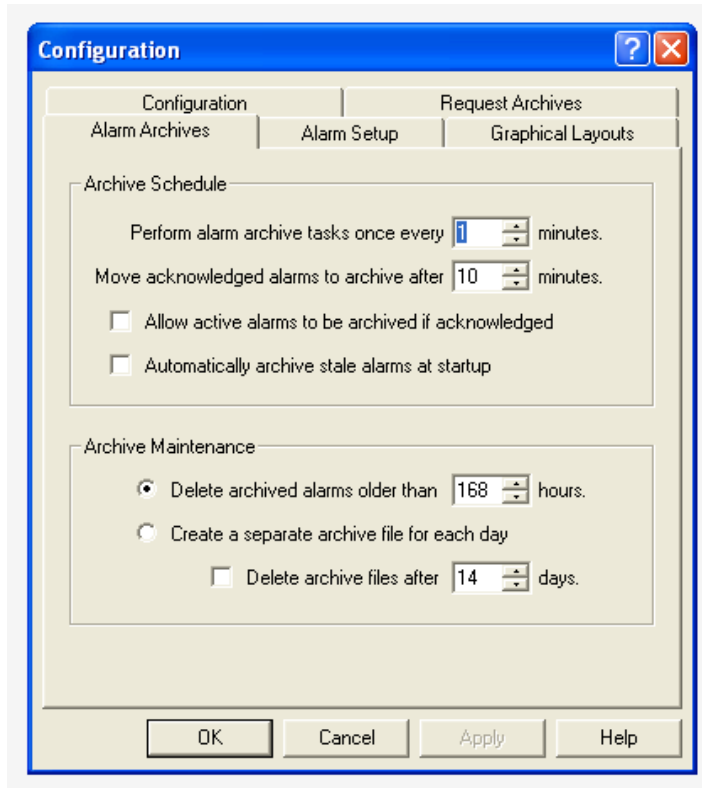

FIGURE 4. Alarm Archives Tab
The **Alarm Archives** tab, shown in Figure 4, is used to set up how the alarm archives perform. It is split into two (2) parts: